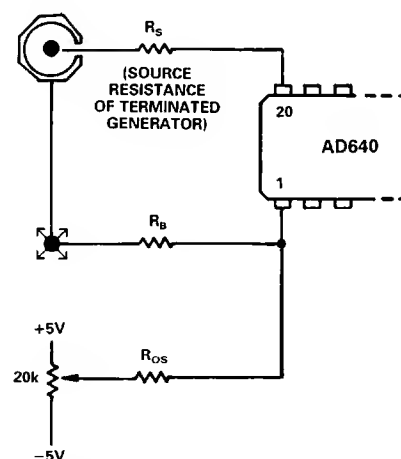

Figure 25. Optional Input Offset Voltage Nulling Circuit; See Text for Component Values
In most applications there will be no need to use any offset adjustment. However, a general offset trimming circuit is shown in Figure 25. R_S is the source resistance of the signal. *Note:* 50 Ω rf sources may include a blocking capacitor and have no dc path to ground, or may be transformer coupled and have a near zero resistance to ground. Determine whether the source resistance is zero, 25 Ω or 50 Ω (with the generator terminated in 50 Ω) to find the correct value of bias compensating resistor, R_B , which should optimally be equal to R_S , unless $R_S = 0$, in which case use $R_B = 5\text{ }\Omega$. The value of R_{OS} should be set to $20,000R_B$ to provide a $\pm 250\text{ mV}$ trim range. To null the offset, set the source voltage to zero and use a DVM to observe the logarithmic output voltage. Recall that the LOG OUT current of the AD640 exhibits an *absolute value response* to the input voltage, so the offset potentiometer is adjusted to the point where the logarithmic output "turns around" (reaches a local maximum or minimum).
R4 is identical to R2, and in shunt with R3 (270 Ω thin film) forms a 27 Ω resistor with the same TC as the output resistance of the attenuator. By connecting Pin 1 to ATN LOW (Pin 2) this resistance minimizes the offset caused by bias currents. The offset nulling scheme shown in Figure 25 may still be used, with the external resistor R_B omitted and R_{OS} = 500 k Ω . Offset stability is improved because the compensating voltage introduced at Pin 20 is now PTAT. Drifts of under 1 $\mu\text{V}/^\circ\text{C}$ (referred to Pins 1 and 20) can be maintained using the attenuator.
Cascaded AD640s can be used in dc applications, but input offset voltage will limit the dynamic range. The dc intercept is 6 μ V. *The offset should not be confused with the intercept*, which is found by *extrapolating* the transfer function from its central "log linear" region. This can be understood by referring to Equation (1) and noting that an input offset is simply additive to the value of V_{IN} in the numerator of the logarithmic argument; it does not affect the denominator (or intercept) V_X . In dc coupled applications of wide dynamic range, special precautions must be taken to null the input offset and minimize drift due to input bias offset. It is recommended that the input attenuator be used, providing a practical input range of -74 dBV (± 200 μ V dc) to +6 dBV (± 2 V dc) when nulled using the adjustment circuit shown in Figure 25.